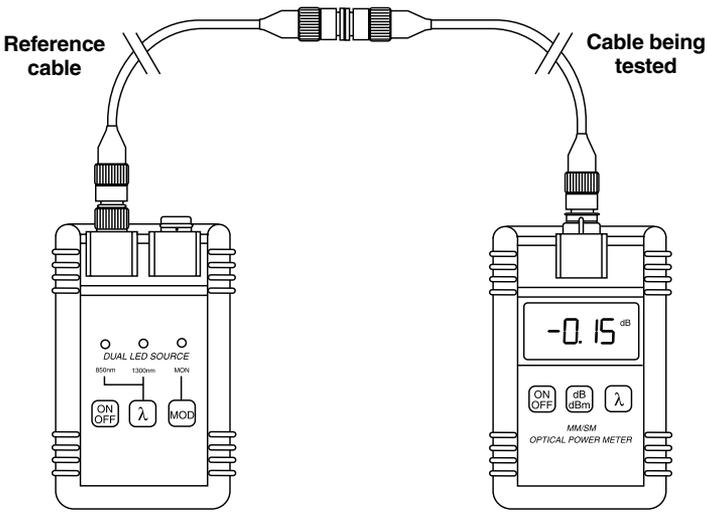

Figure 5-3. Getting a final insertion-loss figure for a tested cable.
4. Disconnect the end of the reference cable from the meter and insert the connector or cable to be tested between the reference cable and the meter, swapping in an appropriate snap-on adapter for the meter's input connector if necessary. The meter reads the connector/cable loss in dB. The example in Figure 5-3 displays a loss of -0.15 dB.